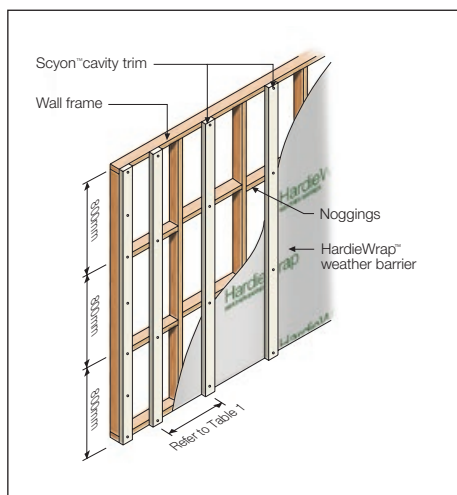

FIGURE 5 OFF-STUD FIXING
Alternatively, for the off-stud installation method, noggings must be installed at 800mm maximum centres, see Figure 5. The noggings must be aligned with the exterior plane of the frame to ensure that a flush surface is provided to accommodate the installation of the Scyon™ cavity trim. Off stud fixing is not suitable in high wind loads, see Table 1. This table specifies the maximum stud spacings for Scyon Matrix cladding for Australian wind load classifications of AS 4055 'Wind Loads for Housing'.
The Scyon™ cavity trim can be installed off-stud over the HardieWrap™ weather barrier. It is important that horizontal supports (noggings) are installed at a maximum of 800mm vertical centres. A specified fastener is fixed at the intersection of every support, see Figure 5. For Scyon™ cavity trim and stud spacings, refer to Table 1.
* In the case of fixing the cavity trim off stud, the fastener spacing will be at each support i.e. a maximum of 800mm centres, see Figure 5.